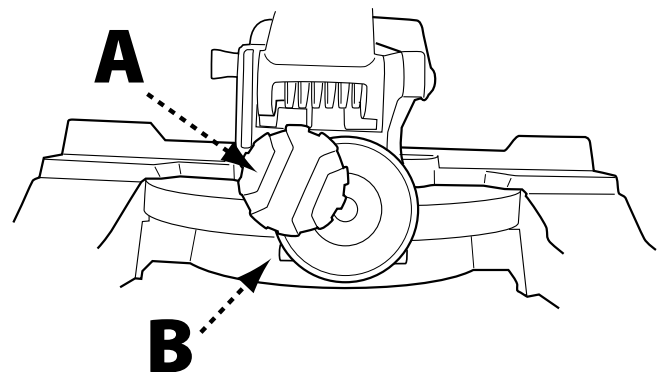

FIGURE 14
10. If the top or bottom of the blade face is not flush with the square, refer to Figure 14 below and perform the following steps.
Refer to Figure 14.